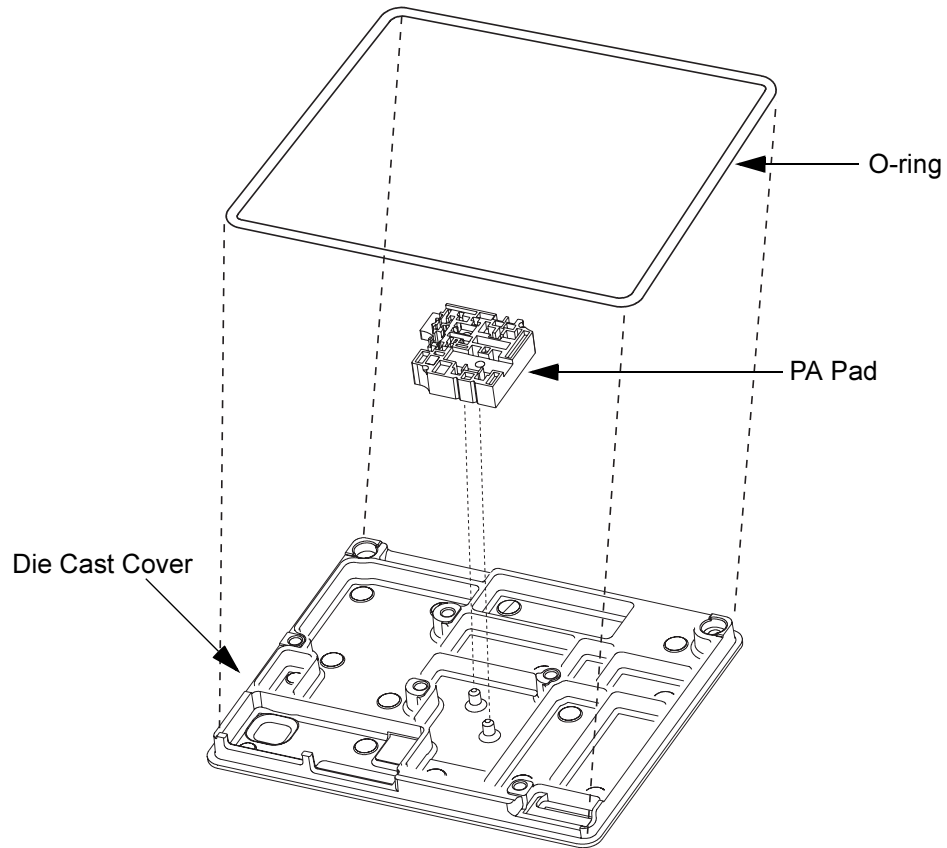

Figure 5-17. Assembling of PA Pad and O-ring
5. Fit the O-ring onto the die cast cover securely. Refer to Figure 5-17.